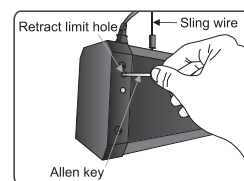

Figure 19
1. Retract limit adjusting. Take off the knob from the whole and then use the provided allen key to adjust. If it goes clockwise the housing would raise, to adjust anticlockwise the housing would lower down. (Figure 19)